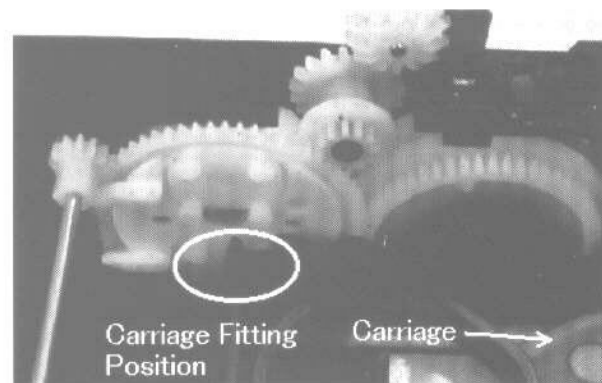

Fig.9
- 2) Then push in the left side of CARRIAGE 20 on STAR GEAR C(20) and the rail part by warping the CARRIAGE. (See Fig. 9)
- 3) Turn GEAR IDLER 2(17) clockwise to move CARRIAGE 20 inside. After it reaches innermost, you cannot turn GEAR IDLER 2.
- 4) Then set CARRIAGE 10(12) as same as 20.